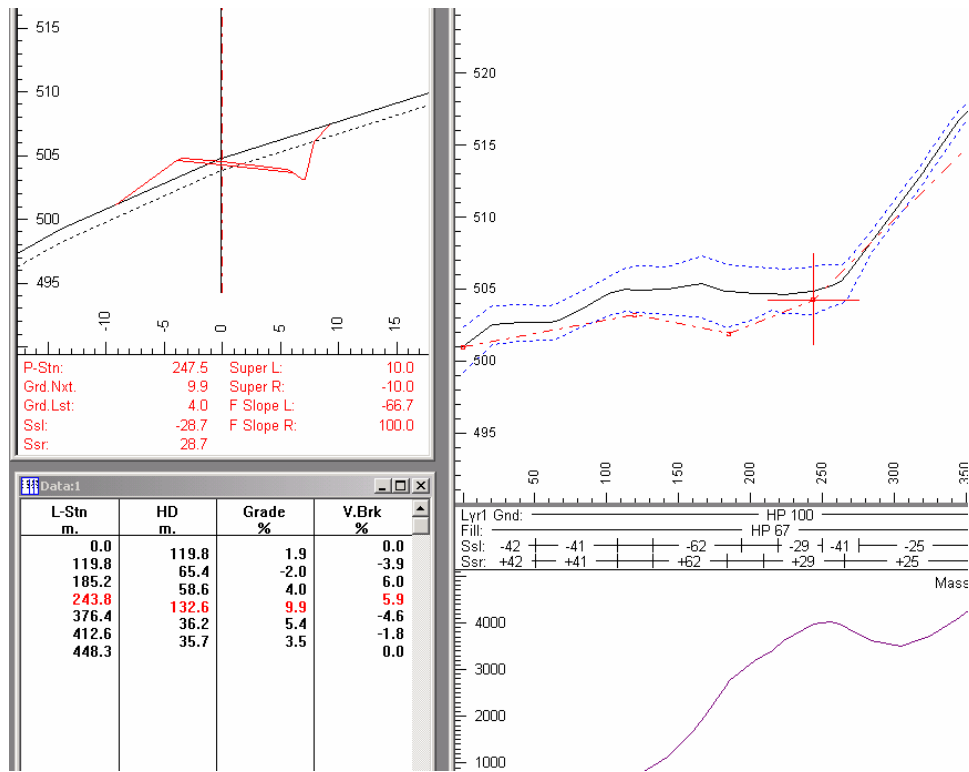

Figure 5.29: After Aligning the First Section of Road
10. Vertically align from the start of the road to station 350 until there are no more excessive fills, the maximum grade is 10% and there are no grade breaks greater than 6.0% (Figure 5.29). You can move *or* delete vertical VIPs.